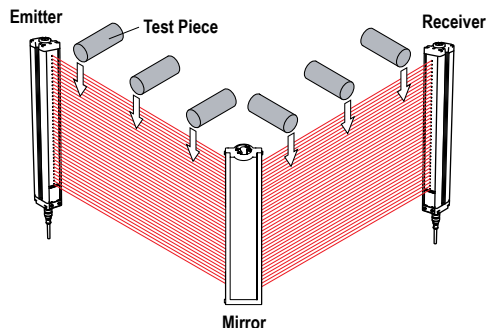

Figure 31. Trip Test with Corner Mirror
- If mirrors are used in the application: Test the defined area on each leg of the sensing path (for example, emitter to mirror, between mirror and receiver, see Figure 31 on page 43).